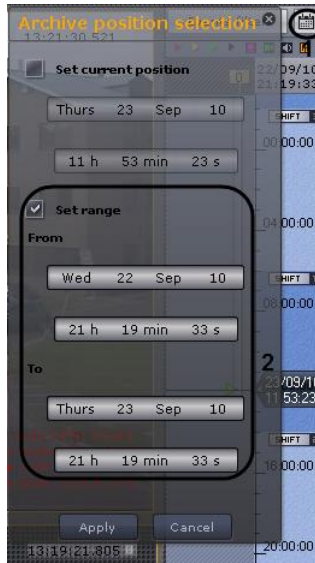

Fig. 7.1—19 Scrolling and zooming the timeline
1. Click the  button (Fig. 7.1—19, 1). The **Archive position selection** window will then appear (Fig. 7.1—19).
2. In this window, select the **Set range** check box (see Fig. 7.1—19, 2). The time parameters in the **Set range** group, which determine the boundaries of the displayed section of the timeline, will become available for editing.